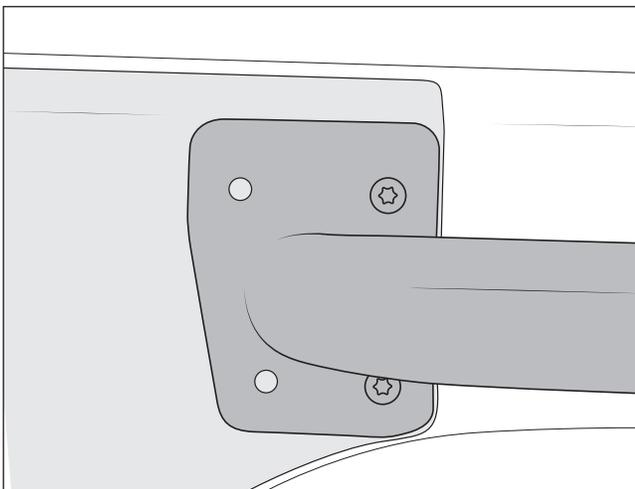

Figure 2
5. Temporarily attach the Corner Guard Rail to the vehicle/Corner Guard using the two front locations (fig. 2).